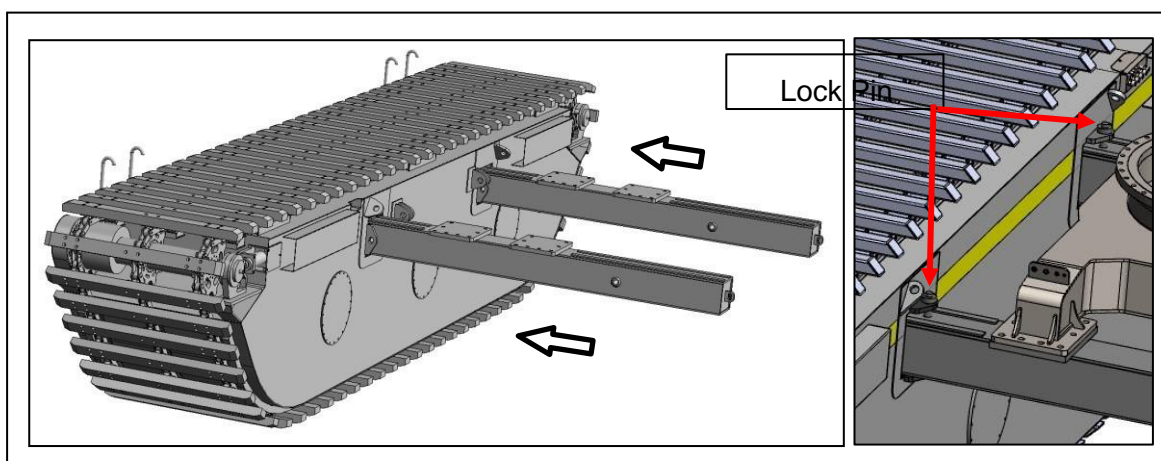

Figure 6.3
2. Install the crossbeams on the inner C-Chamber of one of the undercarriage bodies, according to the correct position. Use the locking pin to lock the crossbeams. Refer to Figure 6.3.